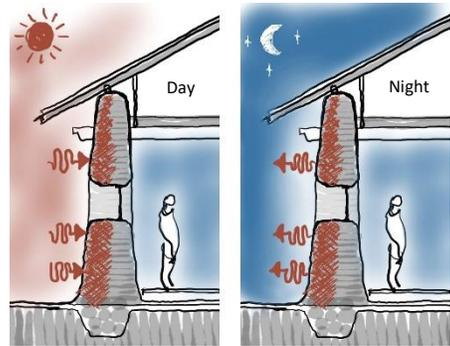

Fig. 47: Adobe built constructions can be effective for cooling efficiency (Source: Author)
d) **High thermal mass external walls** can also function as a buffer to prevent heat gain in warm climates with cool nights (Fig. 47).